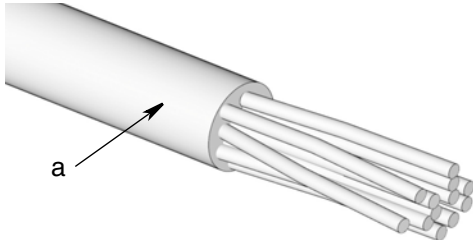

FIG. 4
2. Remove 2 to 3 inches of the outer insulation (a) from bare end of the cable as shown FIG. 4.